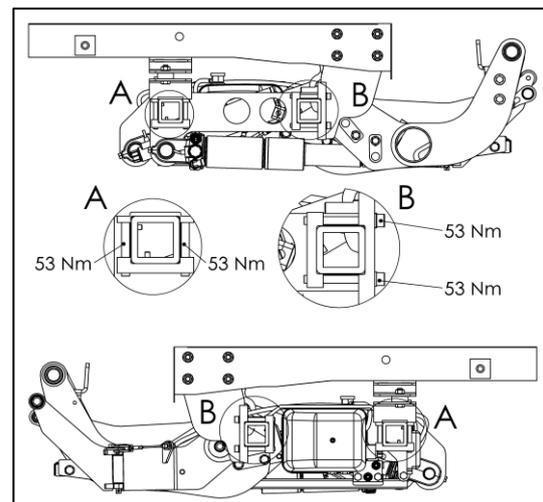

Fig. 34
- Secure the installation adapters to the lifting gear and tighten to the specified torque of 53 Nm (see Fig. 34).